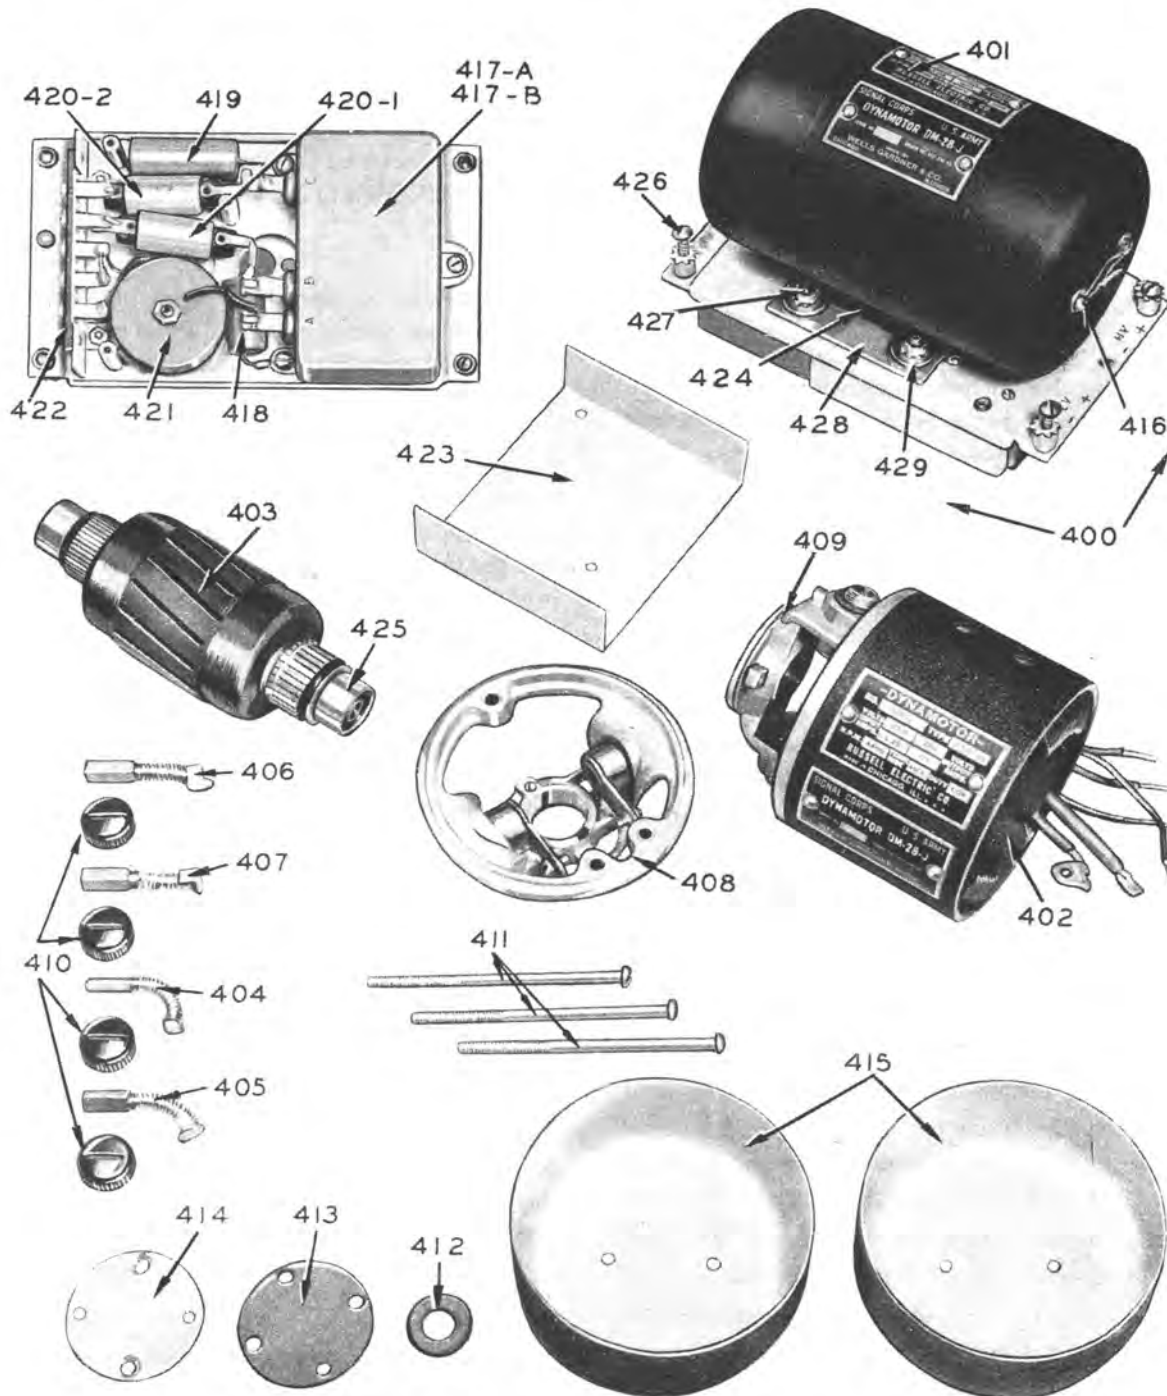

Figure 8 — Dynamotor DM-28-J and Filter
e. ONE YEAR.—Repeat above. Inspect and replace dynamotor brushes if necessary. Lubricate dial and tuning capacitor drive mechanism. Check dynamotor and tube socket voltages as described in Paragraphs 34*e*(1) and 34*b*(1).
a. REMOVAL FROM CHASSIS.—The dynamotor and filter assembly (Figure 8, reference 400) may be removed easily from the receiver chassis by repeating the following steps in the order given:
(1) Loosen two thumbscrews 299 on the front panel, and remove the chassis from the cabinet.
(2) Loosen the five screws on the dynamotor terminal strip 422, and withdraw the five leads with spade terminals from under them. Retighten the five screws partially in order that they will clear the chassis when the dynamotor is removed.
(3) Push the left (from front of chassis) thumbscrew rod stop spring towards the end plate with a screwdriver, and withdraw thumbscrew rod 299 until the second stop position is reached.
(4) Loosen the four captive screws 426 which fasten the dynamotor to the chassis, and lift the dynamotor vertically from the receiver.